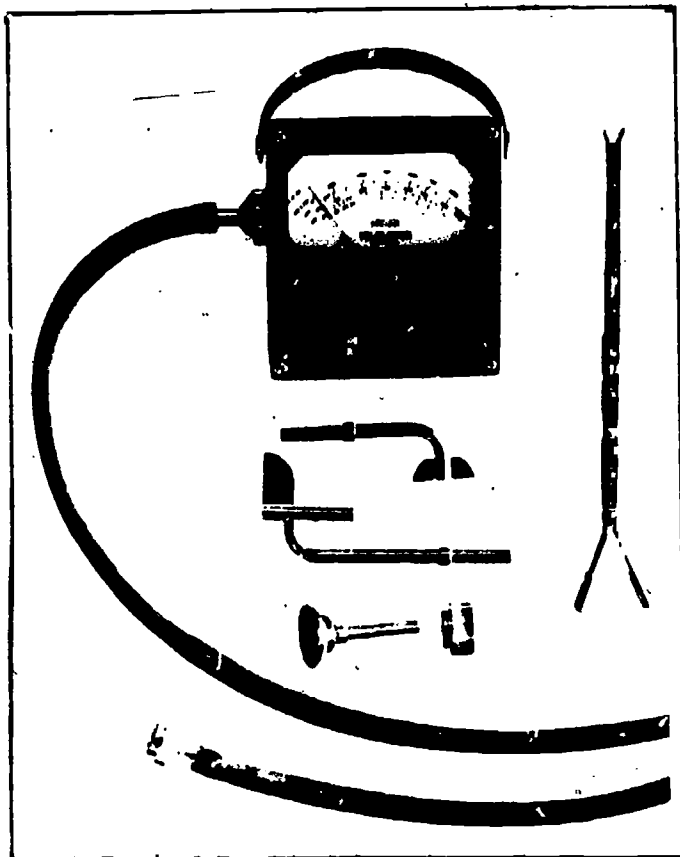

Fig 1-14. Direct-reading velocity meter.
d. Direct flow velocity meters (fig 1-14). This type velocity meter is calibrated to read the air velocity in feet per minute. It may be placed directly in the air stream or may be connected through a flexible tube to special jets which permit the taking of velocity readings.